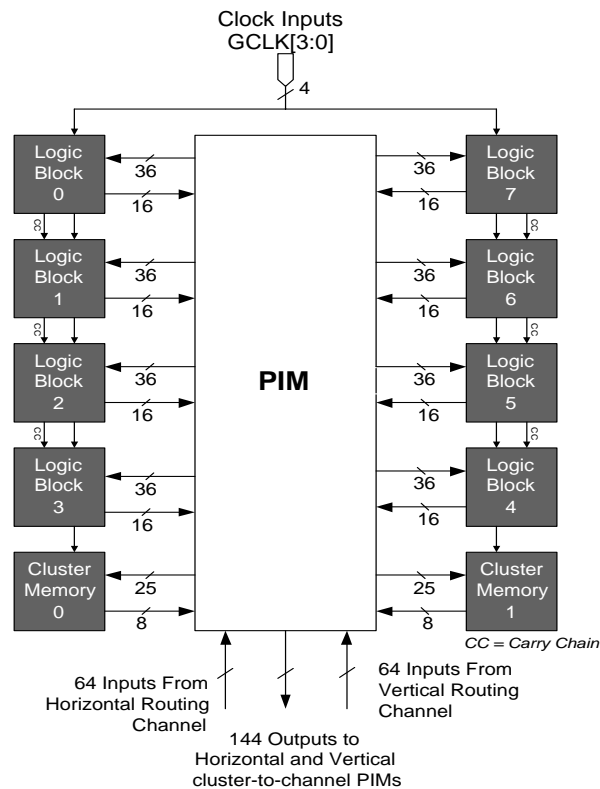

Figure 3. Delta39K Logic Block Cluster Diagram
The Delta39K architecture consists of several logic block clusters, each of which have eight Logic Blocks (LB) and two cluster memory blocks connected via a Programmable Interconnect Matrix (PIM) as shown in *Figure 3*. Each cluster memory block consists of 8-Kbit single-port RAM, which is configurable as synchronous or asynchronous. The cluster memory blocks can be cascaded with other cluster memory blocks within the same LBC as well as other LBCs to implement larger memory functions. If a cluster memory block is not specifically utilized by the designer, Cypress's *Warp* software can automatically use it to implement large blocks of logic.